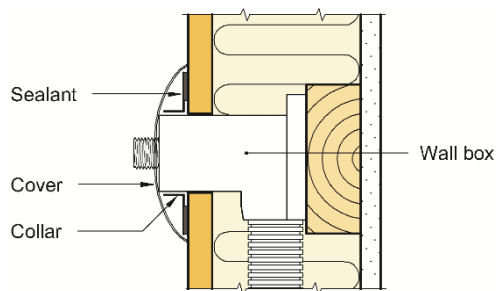

Fig. 3
- Collars that are delivered with the wall box are glued to the surrounding panel using BerryAlloc Wall&Water Sealant, Bostik Silmax Byggfug 2620 or Casco AquaSeal. See fig. 3.